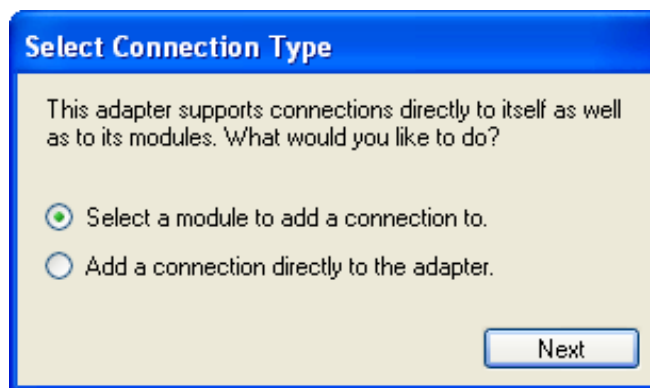
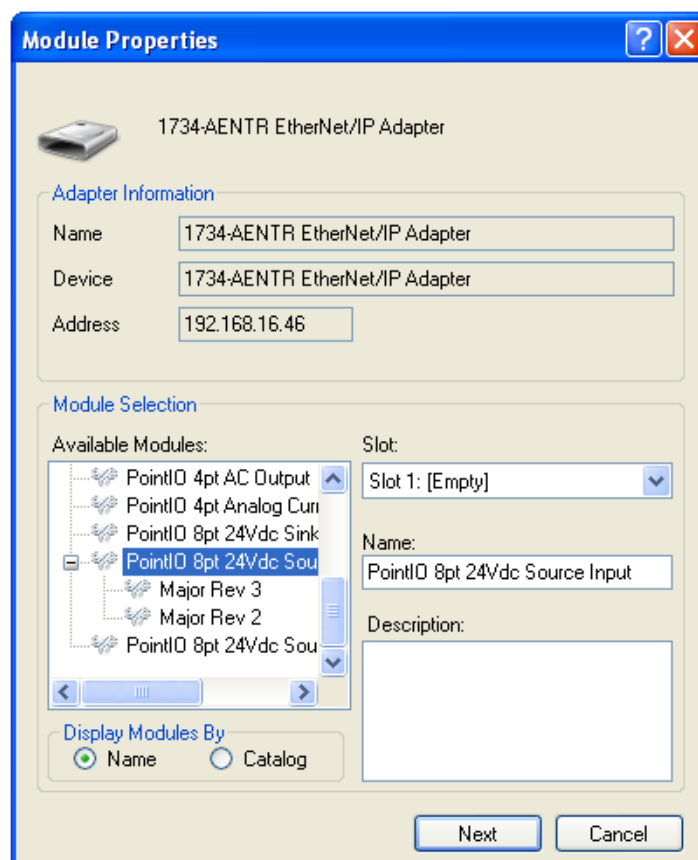

Figure 50: Select Connection Type
Figure 51: Module Properties
5. Add the POINT IO (1734-AENTR EtherNet/IP Adapter) to the scanner. Enter an IP address and click next. If the adapter supports direct connections to itself, select the appropriate type of connection to be created (see Figure 50). Connections to the adapter can always be created at a later time. If the adapter does not support direct connections to itself or the user selects to add a connection to a module, the Module Properties box will be displayed (see Figure 51). All available modules for the POINT IO adapter will be listed.
3. If the adapter supports direct connections to itself, select the appropriate type of connection to be created (see Figure 50). Connections to the adapter can always be created at a later time. If the adapter does not support direct connections to itself or the user selects to add a connection to a module, the Module Properties box will be displayed (see Figure 56). Select the Generic Module and a slot number and click next.